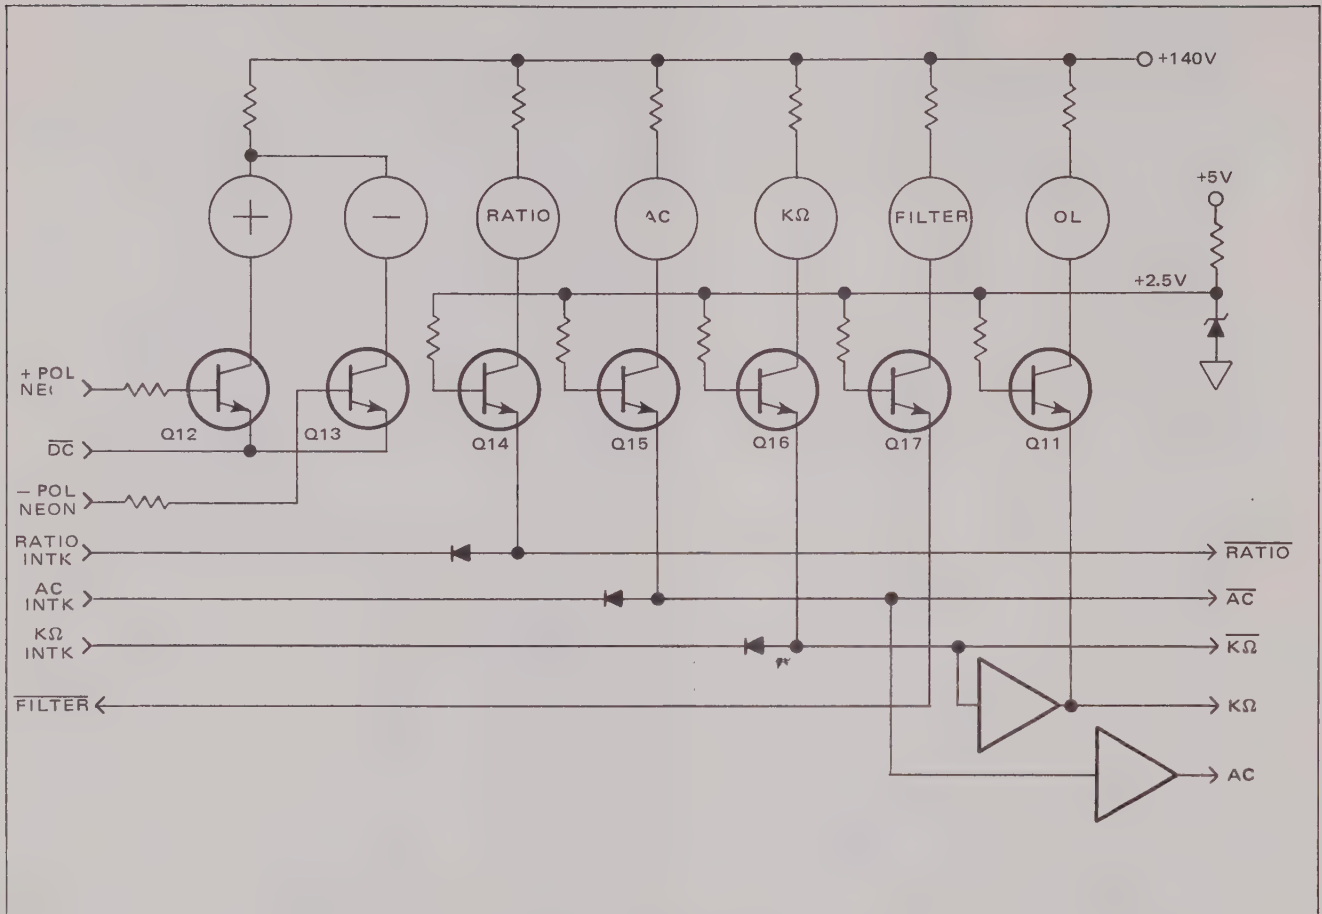

Figure 4.13 - Annunciator
4.66 The annunciator indicates the polarity, the function other than DC, the presence or absence of the filter and an input signal overload condition. The logic used to control the annunciator is shown in figure 4.13.